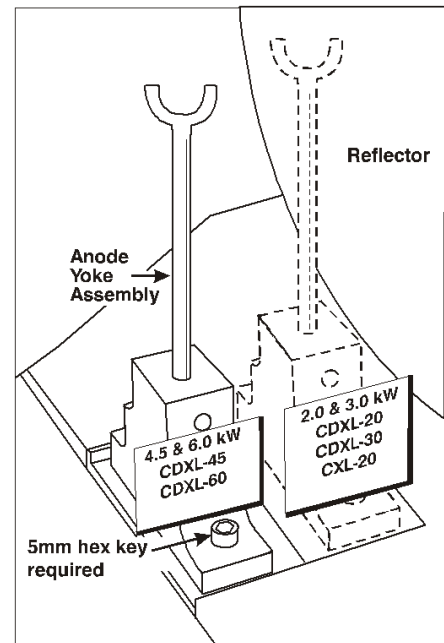

Figure 2-20 Anode Clamp Location
2. Position anode yoke assembly according to lamp type. Check the position of the anode yoke assembly for the lamp type that will be used in the projector. Table 2.2 lists all available lamp types for the CP4230 and the position of the anode yoke assembly. (Figure 2-20)